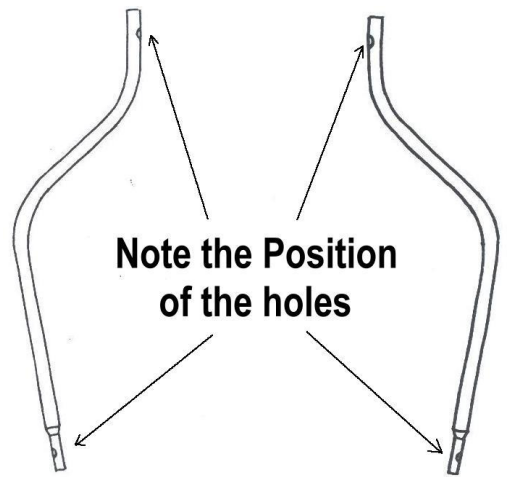

FIG. 8
4. Now, remove Wing Nuts (6) from the bottom ends of the Side Handle Tubes (33). Slip bottom ends of Side Handle Tubes (33) inside Chassis (36) See Figure 8. Make certain the Thumb Screws (28) go through the hole in the formed pocket. Reattach the Wing Nuts (6) onto the Thumb Screws (28) now protruding through the outside of the Chassis (36).